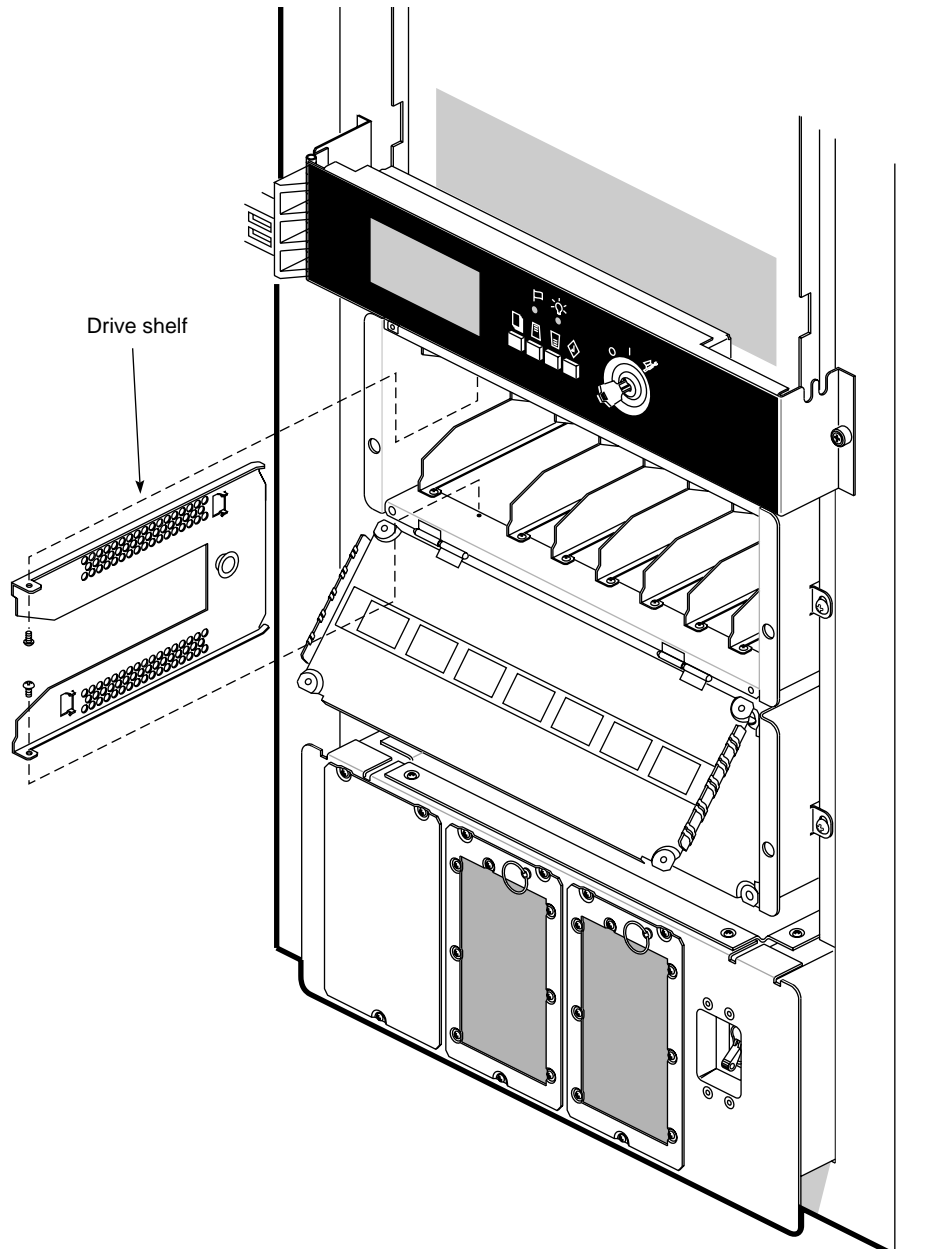

Figure 4-3 Removing a SCSIBox Drive Shelf
4. Remove the two crosshead screws securing the upper and lower front corners of the drive shelf (see Figure 4-3). This requires a No. 0 crosshead screwdriver.